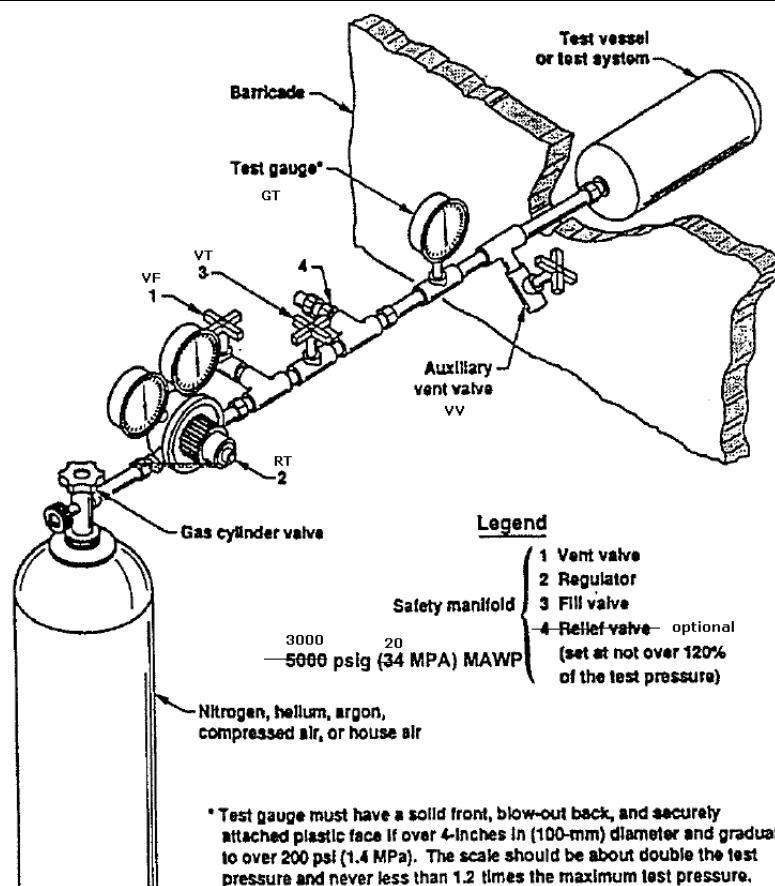

Fig. 17 Pressure Test Set up (Pneumatic, in-situ)
2. Assemble remote gas cylinder, regulator(RT), test gauge(GT) for 1875 psig test pressure, test isolation valve(TV), vent valve(VV), and fill vent valve (VF) as shown in fig. 17 below, and locate around corner from experiment, out of line sight, and behind wall of cabinets, or wall. Note that the pressure relief valve shown in fig. 17 is optional (see step 3 below for more explanation), since test feed ports T1 and T3 cannot be isolated from the system pressure relief valves.
3. Install 460 psig (329 initial), 591 psig, and 1968 psig relief valves into exhaust ports of 350 psig (250initial), 450 psig, and 1500 psig relief valves, respectively. Note that this is permissible only because the system pressure relief vaves used, (Swagelok R3, R4 high pressure) are designed to be insensitive to back pressure; other types of pressure relief valves can be sensitive to back pressure and must be plugged while a separate test pressure relief valve installed as shown on fig. 17 (not optional).
13. Screw in RT handle slowly, in steps in steps of 33% MAWP (500 psi), each time closing VT, and watching GT to see that stable pressures are achieved. Watch GT for 5 minutes minimum, each time. If leaks occur, back off pressure to 300 psig (20% MAWP) max. and inspect to find leak. See note on possible methods below fig. 17. Once found, back off RT fully, open VV to depressurize fully, and fix leak. If no leaks occur, continue increasing pressure (stepwise, as above) until 1500 psig reads on test gauge. Watch GT closely while increasing pressure to note when 1500 psig relief valves open; pressure should drop slightly for each one. If this is not observed, 1500 psig relief valve(s) may be leaking, or not opening properly, and step 15 below must be performed. Record pressures on system gauges. Increase pressure to 1875 psig. Hold for 5 minutes, if stable then back off RT, close test gas cyl. valve and release system pressure; otherwise depressurize and fix leak as above.
25. Screw in RT handle slowly, in steps of 33% MAWP (150 psi), each time closing VT, and watching GT to see that stable pressures are achieved. Watch GT for 5 minutes minimum, each time. If leaks occur, back off pressure to 90 psig (20% MAWP) max. and inspect to find leak. See note on possible methods below fig. 17. Once found, back off RT fully, open test vent valve VV to depressurize fully, and fix leak. If no leaks occur, continue increasing pressure (stepwise, as above) until 450 psi reads on GT. Watch GT closely while increasing pressure to note when 450 psig relief valve opens; pressure should drop slightly. If this is not observed, 450 psig relief valve may be leaking, or not opening properly, and step 27 below must be performed. Record pressures on system gauges. Increase pressure to 563 psig. Hold for 5 minutes, if pressure is stable, then back off regulator fully, close test gas cyl. valve, and release system pressure through VV; otherwise depressurize and fix leak as above.
31. Screw in test regulator slowly, in steps of 33% MAWP (115 psi, 85 psi initial), each time closing VT, and watching GT, to see that stable pressures are achieved. Watch GT for 5 minutes minimum, each time. If leaks occur, back off pressure to 50 psig (20% MAWP) max. and inspect to find leak. See note on possible methods below fig. 17. Once found, back off RT fully, open VV to depressurize fully, and fix leak. If no leaks occur, continue increasing pressure (stepwise, as above) until 350 psig (250 initial) reads on GT. Watch GT closely while increasing pressure to note when 350 (250 initial) psig relief valves open; pressure should drop slightly for each one. If this is not observed, 350 psig (250 initial) relief valve(s) may be leaking or not opening properly, and steps 33-35 below must be performed. Record pressures on system gauges. If gas system pressure gauge (P3) cannot read higher than 438 (313 initial) psi, then hold for 5 minutes, then back off regulator, close test gas cyl. valve, and release system pressure. Remove P3, plug, and repressurize to 438 psig (313 initial) as above. Hold for 5 minutes, if stable, then back off regulator, close test gas cyl. valve and release system pressure; otherwise depressurize and fix leak as above. Replace P3, if removed.